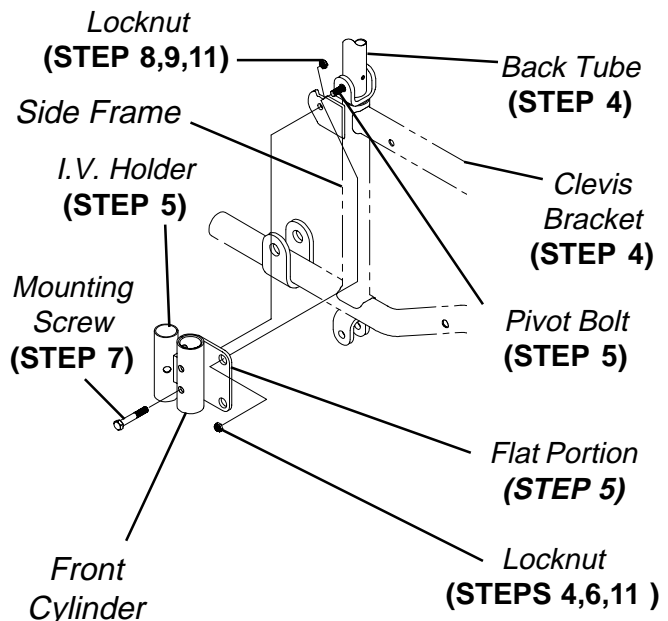

FIGURE 1 - INSTALLING THE TELESCOPING I.V. ROD HOLDER
INSTALLING THE TELESCOPING I.V. ROD HOLDER - 9000XT ONLY (FIGURE 1)
5. Position the I.V. holder on the existing pivot bolt as shown in **FIGURE 1**.